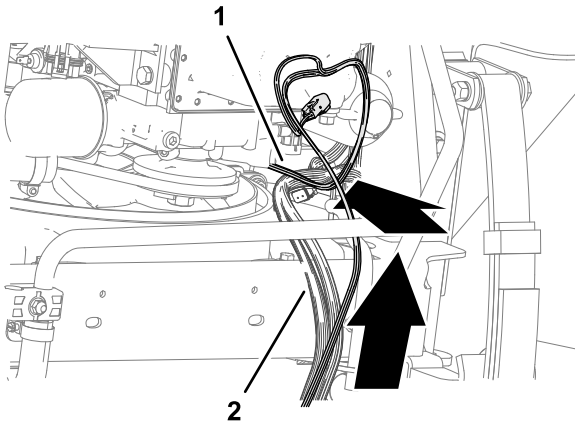

Figure 49
3. At the bottom, back side of the radiator, route the wire harness up, along the machine wire harness (Figure 49).